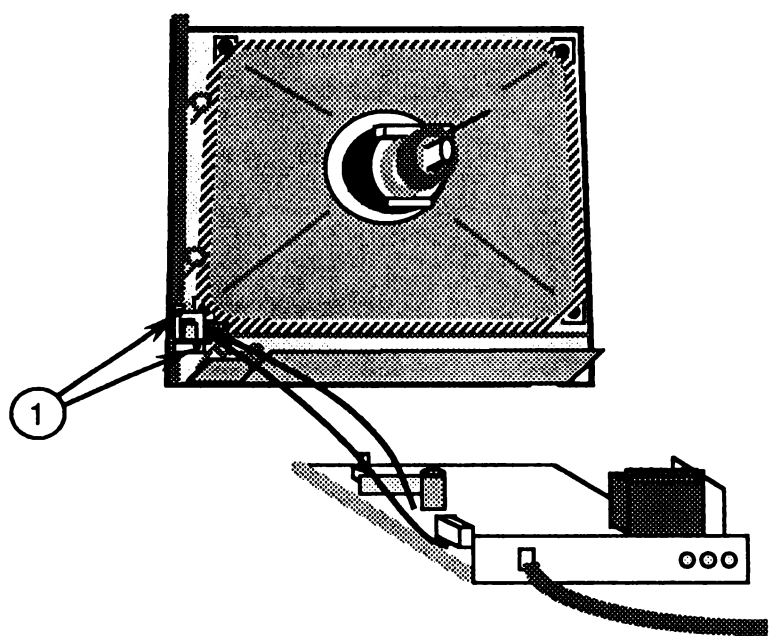

FIGURE 47
- c) Replace the two screws that secure the on/off switch to the front bezel (Figure 47, #1).